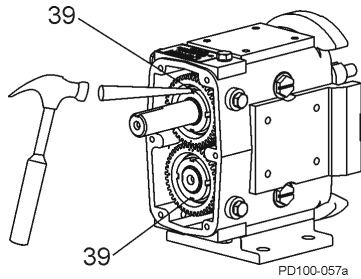

Figure 63 - Bend Lock Tab on Lock washers
- Bend the locking tab on the lock washers into the locking nut slots, securing the gear locknut into place (Figure 63).